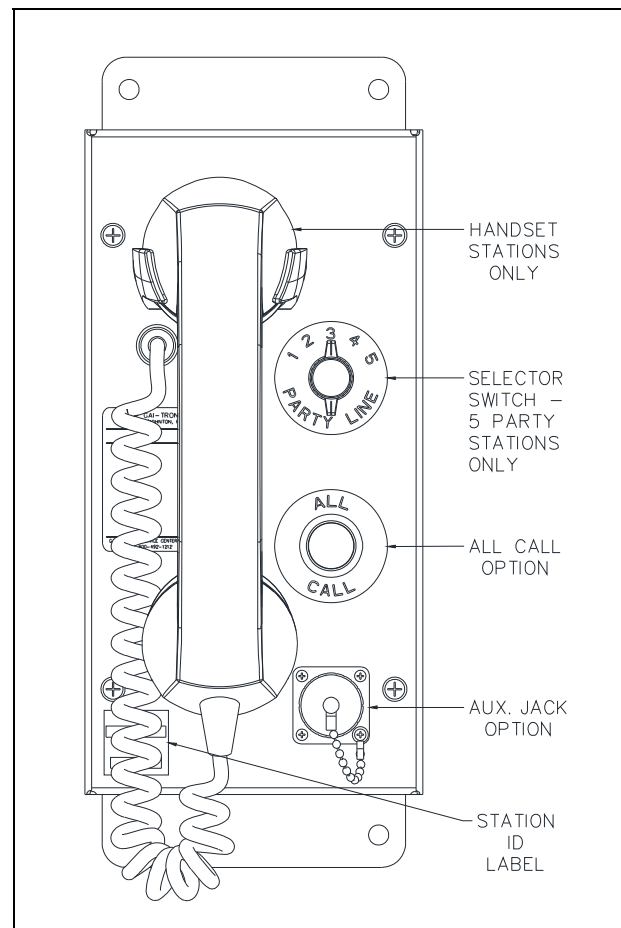
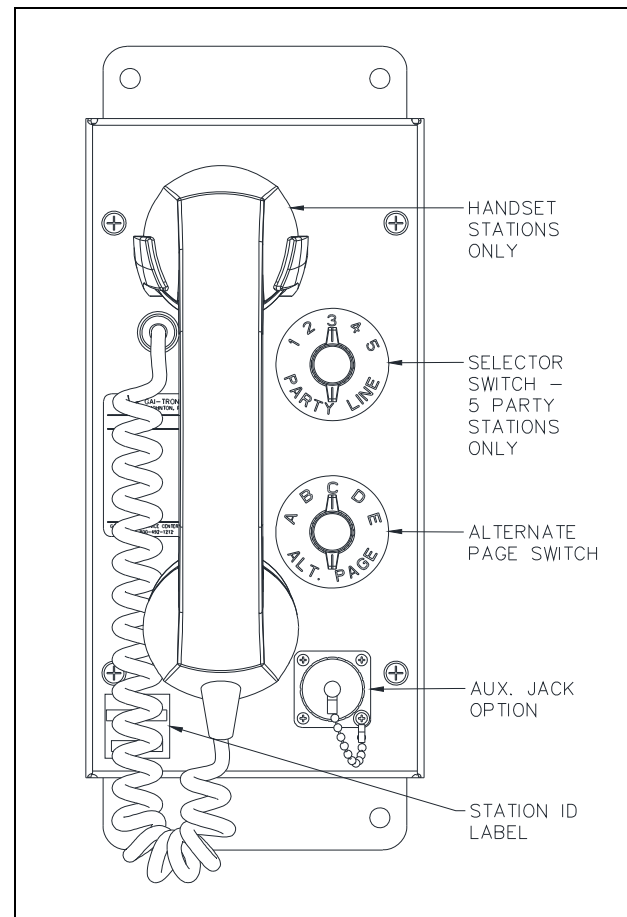

Figure 11. All-Call Button Location
Figure 12. Alternate-Page Switch Location
Use the ALL-CALL option button to page an alternate destination that has been programmed for the station (see Figure 11). The ALL-CALL option must be software configured for the SP2 station. To initiate a page using the ALL-CALL feature:
Use the ALT-PAGE option selector switch to page one of five alternate destinations that have been programmed for the station (see Figure 12). Alternate page destinations must be software configured for the SP2 station. To initiate a page using the Alt-Page selector switch:
1. Attach the headset assembly to the auxiliary jack on the station (see Figure 11 or Figure 12).